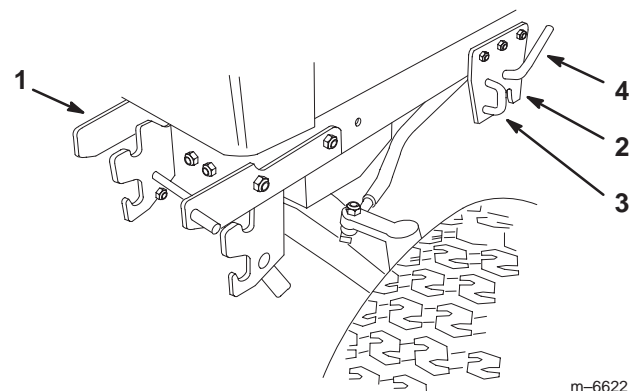

Figure 4
5. Open the mid-mount hitch by pulling out the J-pin and moving the lock handle rearward (Fig. 4).
11. Close the mid-mount hitch lock handle by rotating it forward (Fig. 4).